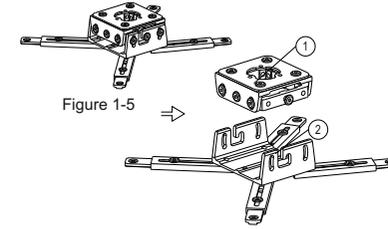

Figure 1-6
2 Step 2: take the octopus out of the packing box, as shown in Figure 1-5, and separate the components ① and ② along the guide groove by hand. Refer figure 1-6